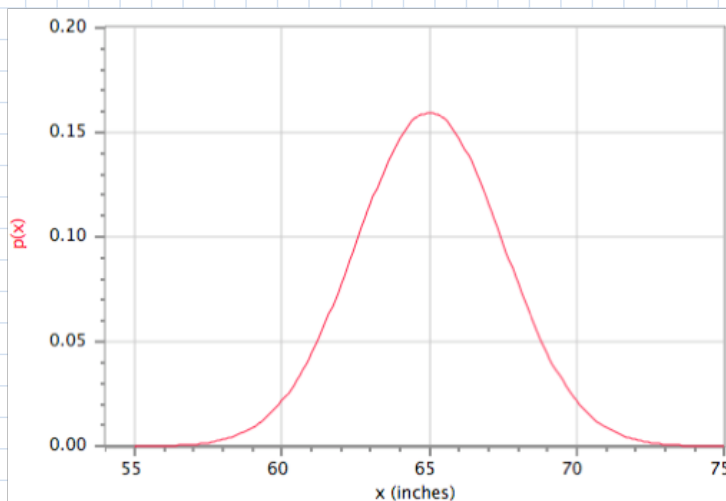
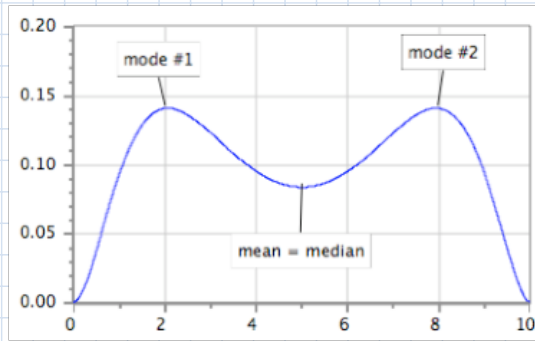

Figure 2:  $p(x)$ , the hypothetical distribution of heights of adult women in the US.
Figure 4: A distribution with mean = median, but not mode.
- a. For a symmetric function like the one graphed above in Figure 2, the mean and median are equal to each other (in this case, both are 65 inches). And because the distribution is peaked in the middle, the mode is also 65 inches. However, Figure 4 shows an example of a symmetric distribution where the mode (actually two modes) is not equal to the median and mean: